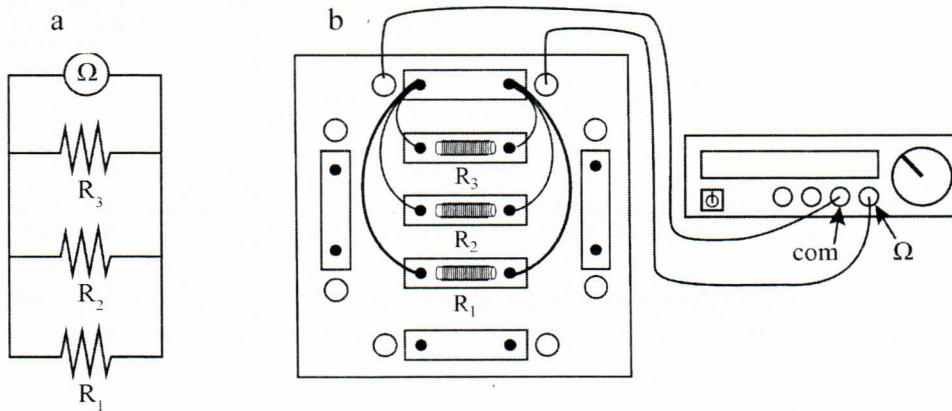

Figure 5.3 Measuring the resistance in parallel. Figure 5.3a uses a standard circuit diagram. Figure 5.3b is the real-life schematic.
1. Construct the resistor portion of the circuit as shown in Figure 5.3. Connect the ohmmeter to get the total resistance, $R_{\text{E}1\text{par}}$. This is the first experimental value of the equivalent resistance.